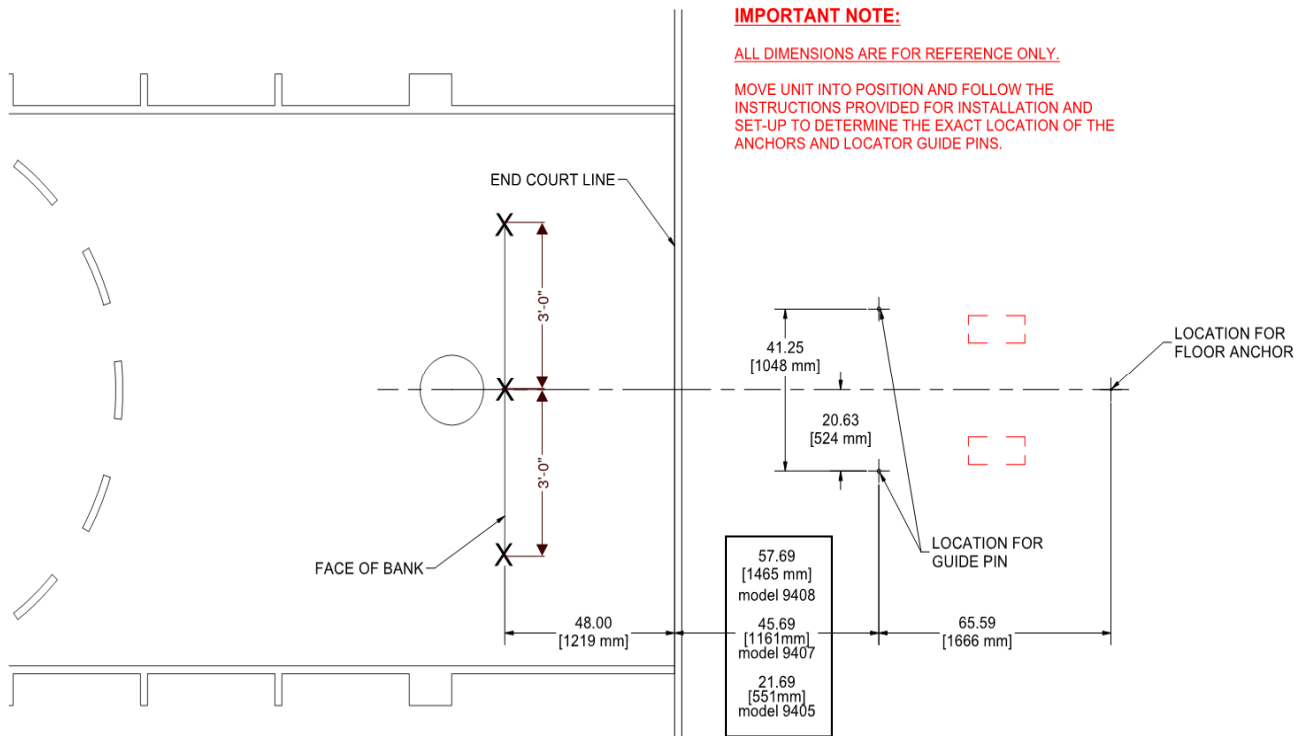

Figure 5
- Using masking tape and pencil, Mark the location of the center of the court 48" from the inside of the court baseline (refer to figure 5). From this center mark, establish a mark 3'-0" to the left and another mark 3'-0" to the right. These marks will be used to align the face of bank to the court.
- Push the unit to the playing location on the court. Find the dimensions for the guide pin location in figure 5 to help set unit in place behind the baseline.